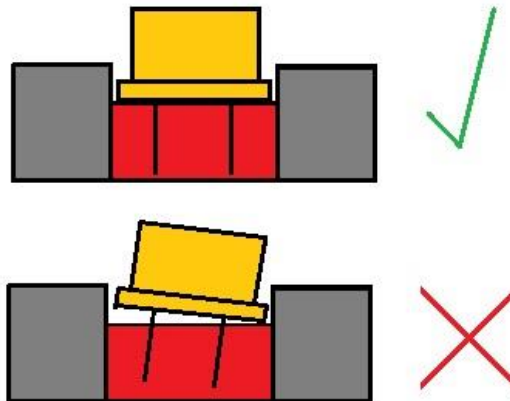

Figure L-9 Fitting a replacement diode
- Carefully, fit the new diode into the connector. Use the diode tag to align the diode with the connector. Do not bend the pins. The diode must be flush with the connector as shown in figure L-9.